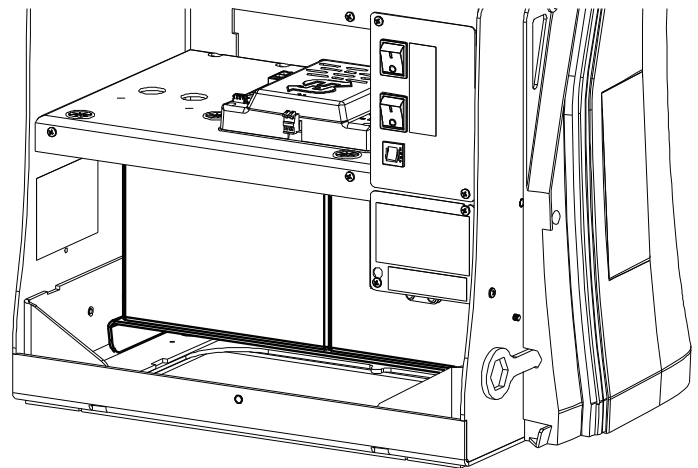

Figure 35. Installed Extended Batteries
7. Place the 35Ah batteries on the tray. (Figure 35)